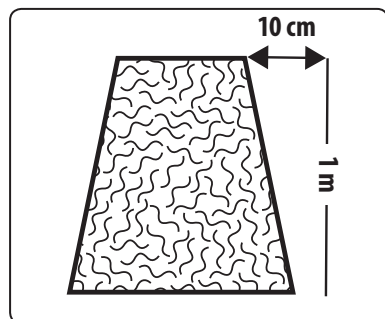

Fig. 3
- It is appropriate to form the hedge into such a shape, where the base is wider than the top part because this shape enables light to better enter the inner parts of the vegetation, see fig. 3.